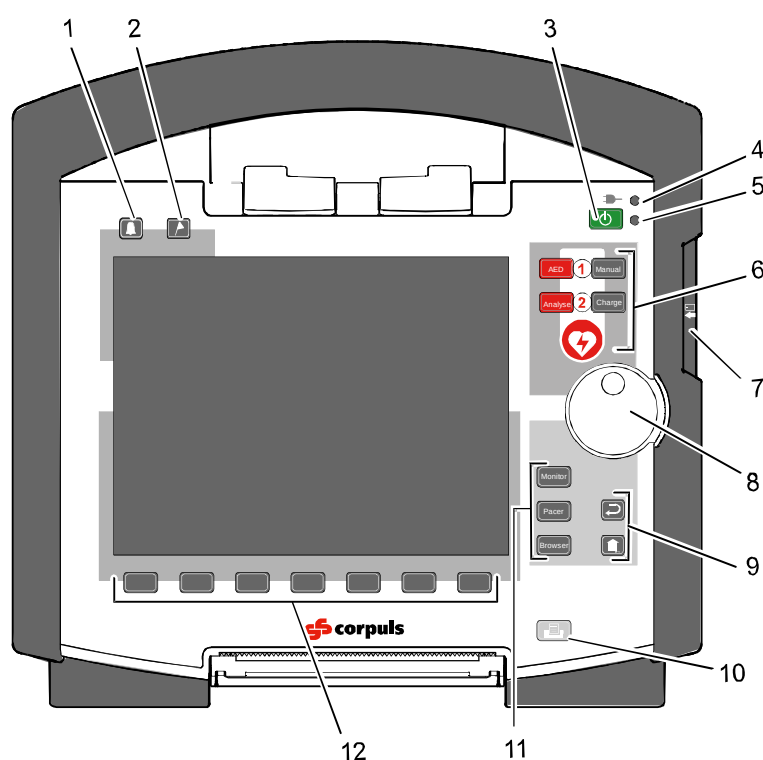

Fig. 4-1 Monitoring unit, operating elements and LEDs
Operating mode keys The different operating modes are selected by pressing the following keys (Fig. 4-1, item 11):
Back and Home function keys The function keys **Back** and **Home** (Fig. 4-1, item 9) are used to control the device:
Pressing the **Print** key (Fig. 4-1, item 10) starts the real-time printout of the curves. Pressing the **Print** key again interrupts every running print job (log, D-ECG, real-time printing).
The softkeys (Fig. 4-1, item 12) are assigned different functions, depending on the current operating mode or selected dialogue. The current function is displayed in the softkey line.
By pressing the **Alarm** key (Fig. 4-1, item 1), the alarm history of all physiological and technical alarms is called up. All the alarms which have occurred appear in this list with their time of occurrence.
Pressing the **Event** key (Fig. 4-1, item 2) records a time stamp which marks the current ECG data and vital parameter values. Based on this marking, this data can subsequently be located in the data memory, viewed and assessed.